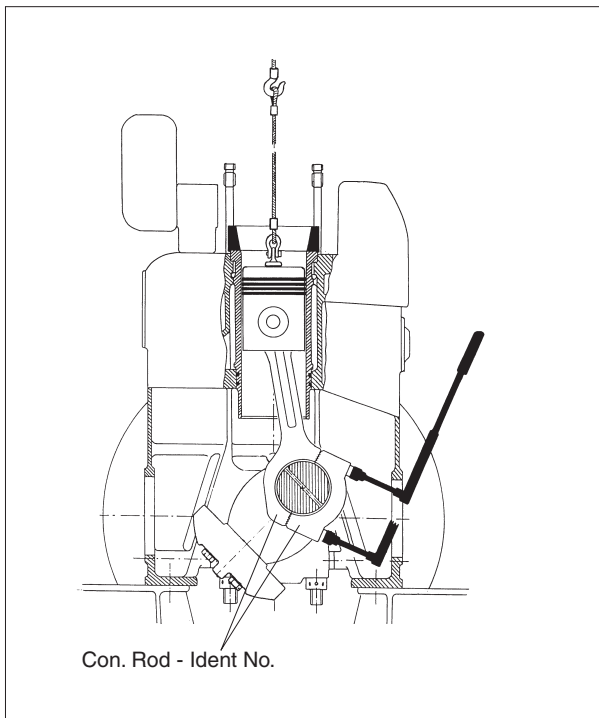

Fig 4.
9) Mount the bearing cap with inserted lower shell of the big-end bearing, using the guide pin, see fig 4.
Note: The ident. No. on the connecting rod and on the bearing cap must always be the same, see fig 4.